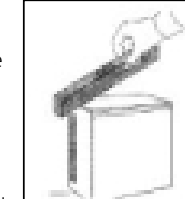

Fig 13.
- 4) Locate the icemaker and the storage bin in the final place, making sure that the two are perfectly level, in order to obtain an even distribution of the water all over the evaporator and a uniform filling of the cube plate (Fig.13). The storage bin is equipped with adjustable feet, which allow for easy levelling and sufficient height for cleaning under the machine.